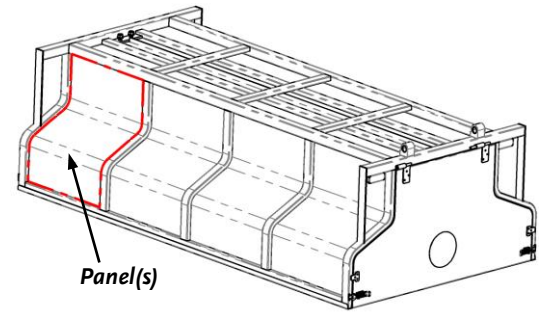

Figure 45
3. With the assistance of **at least** one other person, turn the Bed over onto its top, to remove the Blue Plastic Film from the exterior and underside of the Bed (**Figure 45**). Use the Utility Knife to cut around the Black Frame of the Trailer for the individual panels. Once you have cut around the individual panels, use the point of the Knife to begin peeling at the edge.